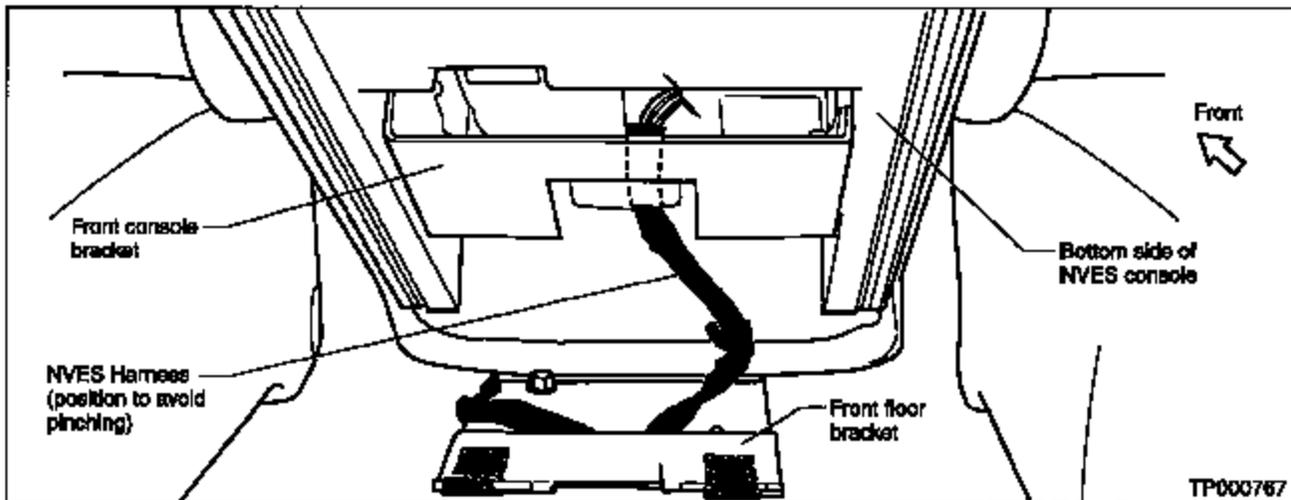

Figure 7
- A. Verify the wire harness (located under the front of the console) is correctly positioned before lowering the console (see Figure 7). Confirming the harness is properly positioned will prevent it from being pinched/damaged.